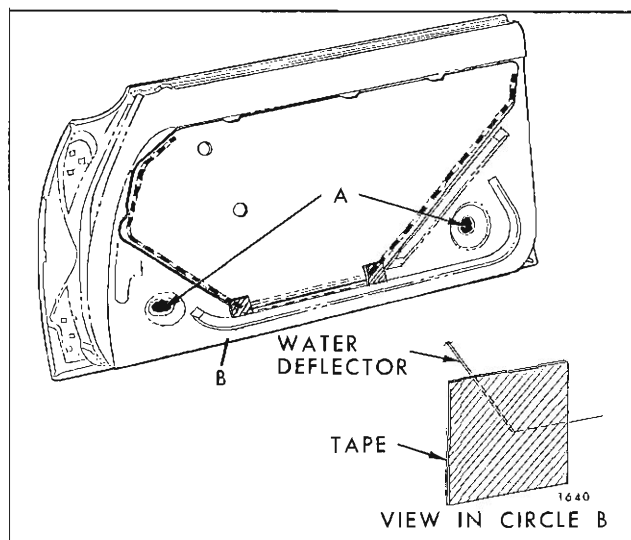

Fig. 5D3—Door Water Deflector - Front Door Shown - Rear Door Similar
2. If a new water deflector is to be installed, use old deflector as a template. Trim new deflector to proper size and cut holes for door inside hardware. In addition, clean off old cement from door inner panel and apply a continuous bead of body caulking compound (approximately 3/16" diameter) to door inner panel along line contacted by front and rear edges of water deflector (heavy intermittent lines in Figure 5D3).